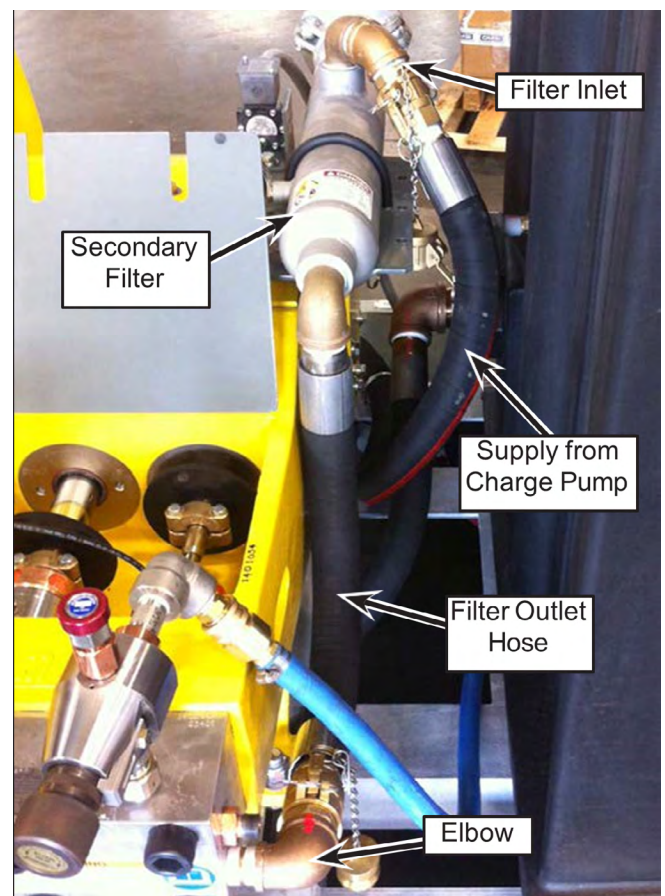

Figure 12: Secondary Filter Plumbing Components
1. Remove the supply hose (Figure 12) (supply from charge pump) from the suction elbow fitting on the 15K/20K manifold.
3. Remove the plug from the secondary filter outlet hose. Connect the hose to the elbow on the 40K manifold. (Figure 12)
4. Remove the cap from the secondary filter inlet coupling (Figure 12).